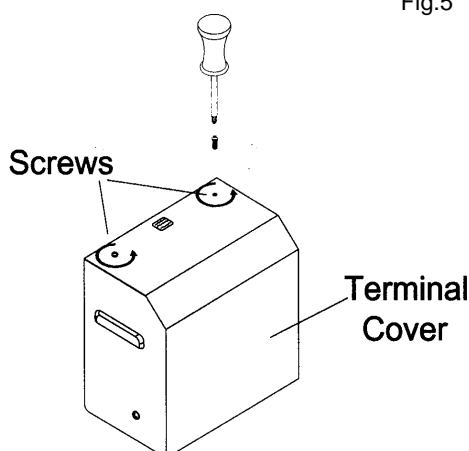

Fig.5
- Remove the fan cover by unscrewing the two corner screws as shown in fig.5. This will allow the cover to swing down from the top as shown in Fig. 6.
- (a) Remove the fan cover by unscrewing the two corner screws as shown in Fig.5. This will allow the cover to swing down from the top as shown in Fig. 6.
- (a) Connect the air inlet terminal (item 6.) to the flexible duct (item 5.) and secure using remaining jubilee clip (item 7.).
- (b) Screw the 4 terminal guard fixing brackets to the wall and bolt terminal wire guard (item 3.) to the brackets.
- (a) Remove the cooker bottom grill panel (item 14. and fig 5.) by un-screwing four screws. (see A, Fig.13).